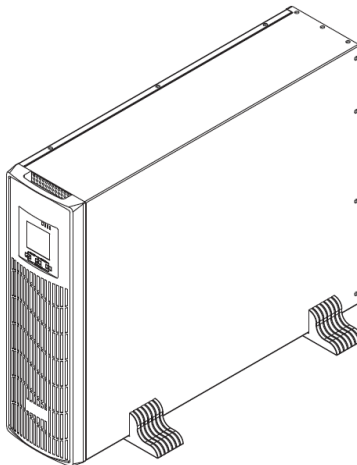

Fig.2-3 Tower installation
Step 4: Place the UPS (and battery cabinet) on the support bases. Each UPS needs two pairs of support bases to install, as shown in Fig.2-3.